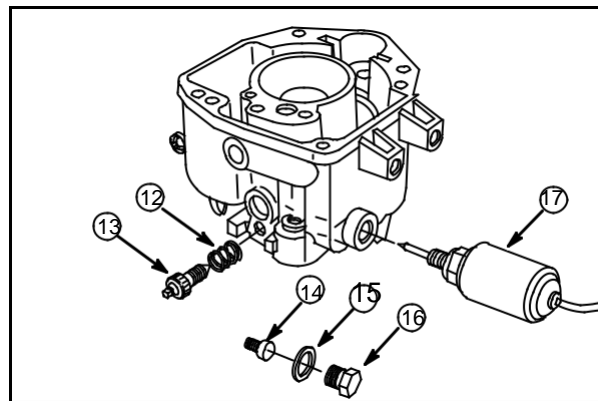

Fig. 89
Install fixed main jet (14) using Screwdriver #19062, **Fig. 89**.